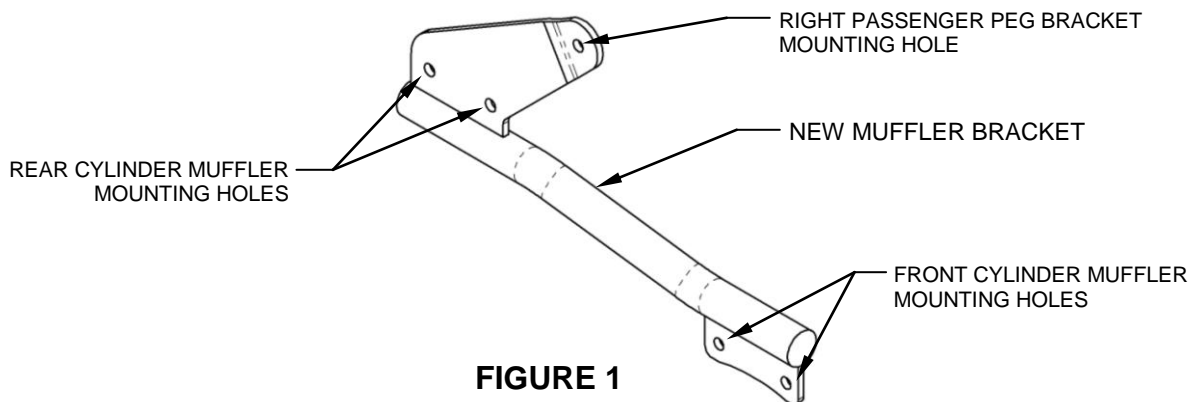

FIGURE 1
3. Remove the exhaust mounting bracket from the box and place on top of the muffler brackets with the small bracket to your right pointing upward and the larger bracket to your left pointing downward. (See Figure 1). Install the four 5/16" bolts through the mounting bracket and into the slider bracket but **DO NOT TIGHTEN**.